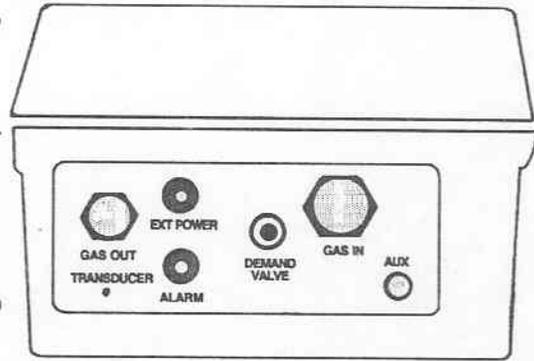

Figure 4-5. Connector panel markings.
(2) *Connector panel (fig 4-5).*